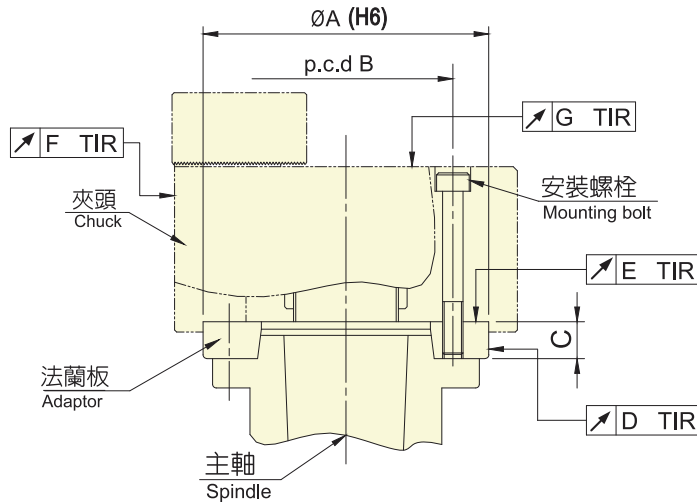

Fig.7
- Fig.7 為 JIS 短錐度主軸圖。
- Fig.7 shows JIS short tapered spindle.